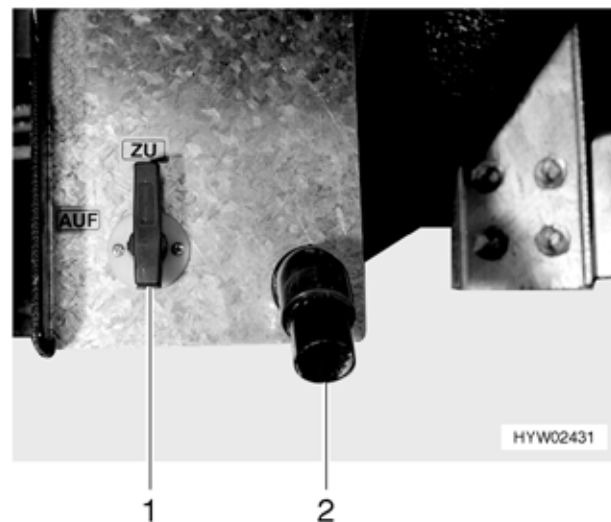
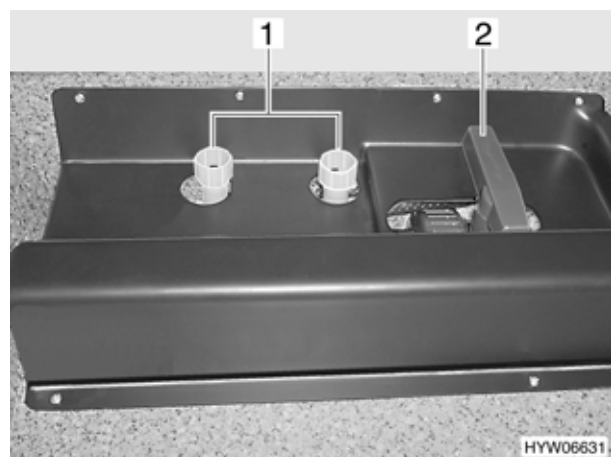

Fig. 147 Operating lever and drain pipe of the waste water tank, closed
Fig. 148 Operating levers for waste water tank in the rear garage, closed
- at the drain pipe (Fig. 147,2) on the left-hand or right-hand vehicle side (Fig. 147,1) (Star-Line) or
- in the rear garage/rear storage space (Fig. 148,2) in the case of model with double floor bottom.
The waste water hosepipe (standard) is in the gas bottle compartment and can be put on the drain pipe (Fig. 147,2) as an extension.
- In order to open the drain cock turn operating lever (Fig. 147,1 or Fig. 148,2) a quarter turn in an anticlockwise direction. The lever is now horizontal.